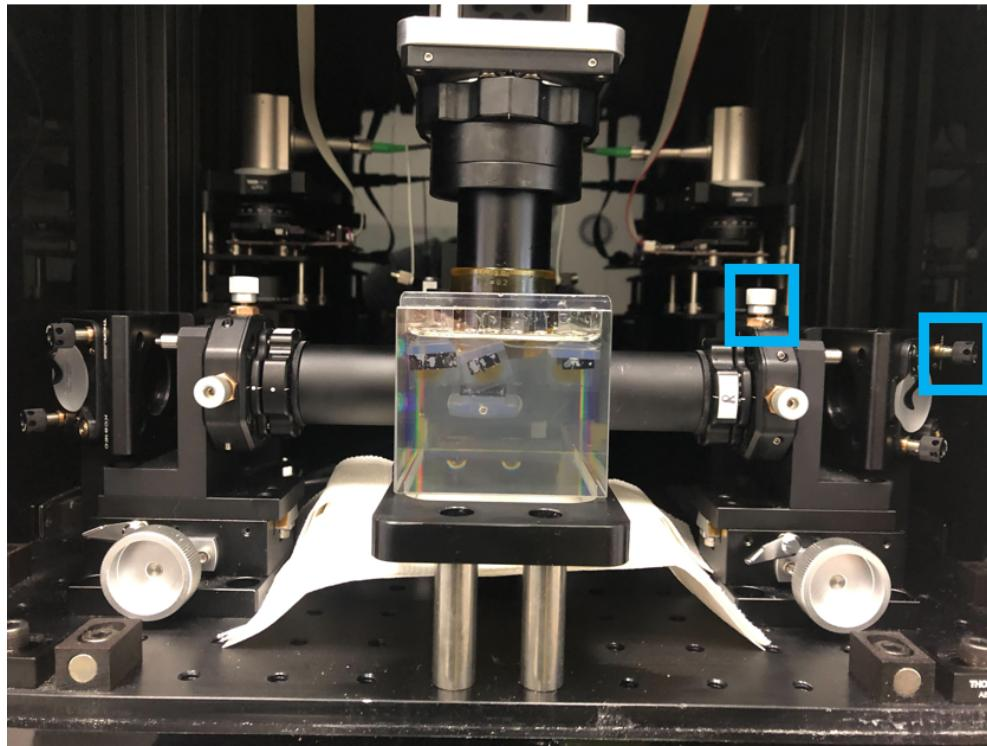

Figure 10. Use the front mirror top knob and illumination objective vertical offset knob to align the light sheet on the non-reference side.
- c. Switch to the non-reference illumination. If the feature is not visible, adjust the top knob of the non-reference front mirror until the feature is visible (indicated in Figure 10).
- d. Move the feature towards the left side while ensuring that you have visibility of the feature. When the feature disappears, use the right illumination vertical offset knob to get the feature visible and in focus (indicated in Figure 10).